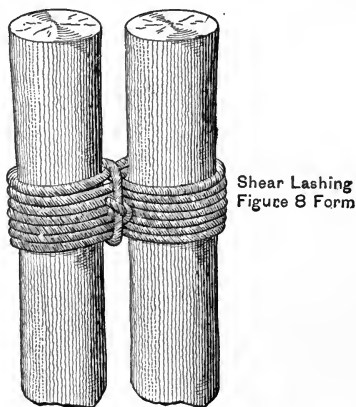

FIG. 51.
A. Middle the lashing and take a turn around both legs at the cross; pass one end up and the other down, around and over the cross, until half of the lash is expended; then ride both ends back again on their own parts and knot them in the middle; frap the first and riding turns together on each side with sennit. This will be useful in rigging shears for hoisting guns when a gin is not available. Any two spars that will support the weight can be used. (See Fig. 51.)